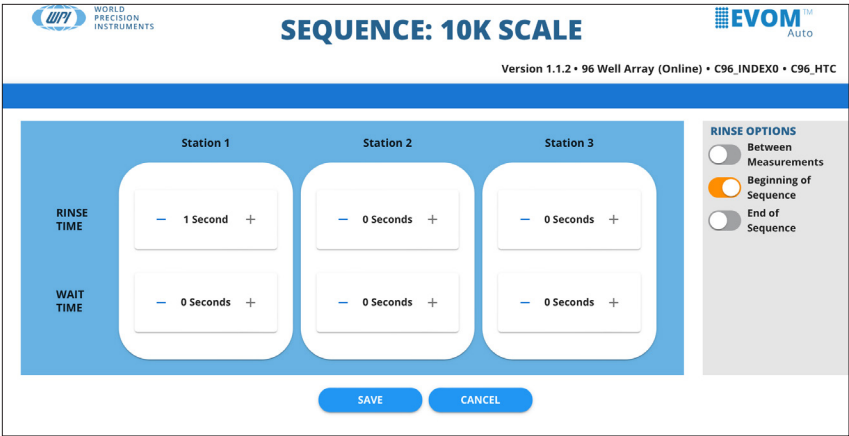

Fig. 34—The Rinse Time window lets you configure the rinse schedule.
- The three rinse stations may be used for rinsing, disinfecting, stabilizing or any other function desired. Configure the rinse schedule by selecting *Rinse* from the menu. The *Rinse Time* window appears (Fig. 34). You can set the rinse time and the wait time in each rinse station using the toggle controls on each field. Three toggle buttons in the *Rinse Options* section on the right side of the window let you set when the rinse and wait parameters are implemented.